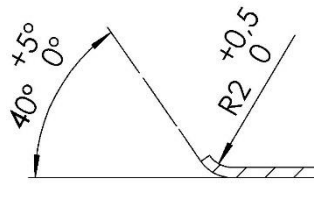

Figure 4: Flanging dimensions
8. Flange the front edge of the baffle similar to the previous edge. Refer to Figure 4 for approximate flanging dimensions.